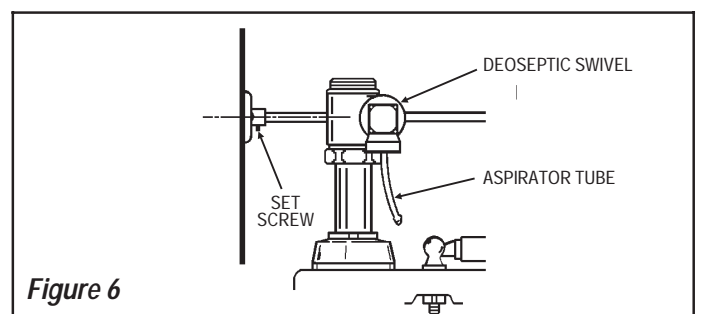

Figure 6
Tighten set screw in wall support flange. Refer to Figure 6.
Step 6 — Install Deoseptic Unit DEOSEPTIC MODELS ONLY (Figure 6)